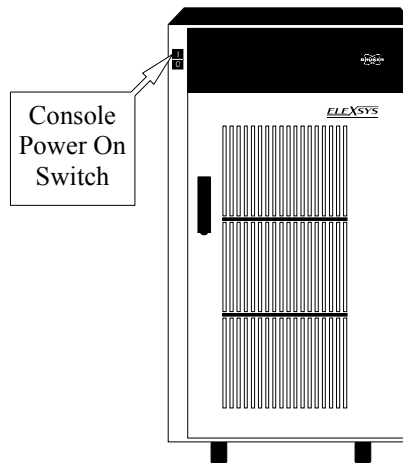

Figure 3-3 The location of the console power switch.
4. **Turn on the power for the console.** The power switch (green button) for the console is located in the upper left front corner of the console. (See Figure 3-3.) The acquisition server will boot and initialize all the modules of the Elexsys E 500 spectrometer. This process may take 30 seconds or longer; meanwhile you can continue with the next steps.